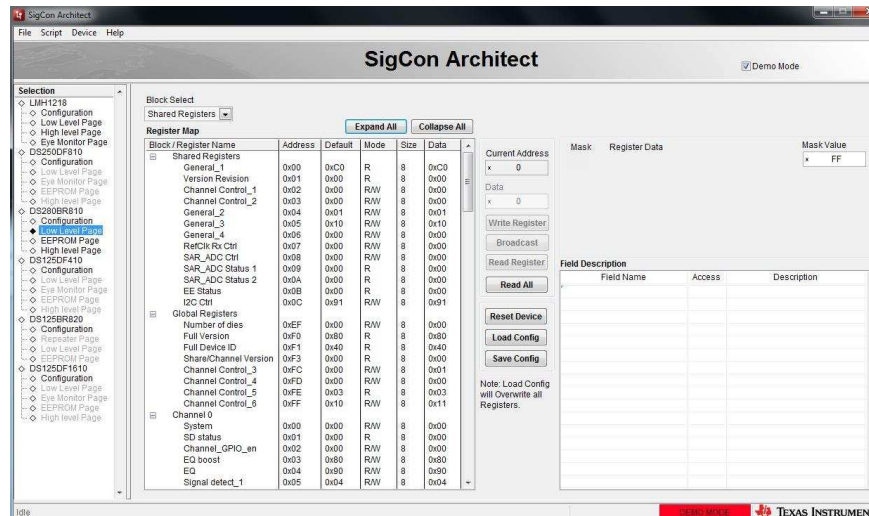

Figure 8. SigCon Architect Low Level Page
9. To read and write to all registers on the DS280BR8x0, navigate to the “Low Level Page,” as shown below in Figure 8. Only in SMBus Slave Mode can the user read and write to all programmable registers. Click “Read All” in order to load the data in each register from the device to the “Register Map.”